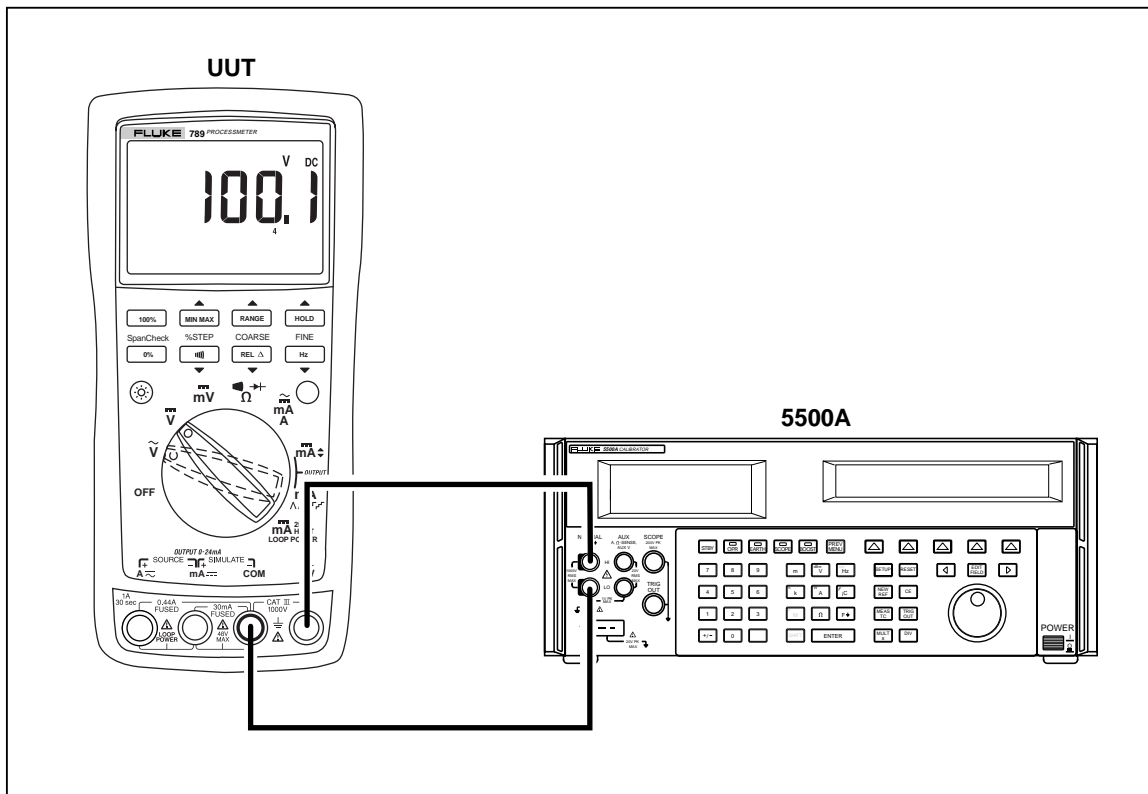

Figure 9. AC/DC Voltage Measurement Test Connections
3. Connect the calibrator to the **COM** and  $\bar{V}$  terminals on the UUT as shown in Figure 9.
3. Connect the calibrator to the **COM** and  $\Omega V^+$  terminals on the UUT as shown in Figure 9.